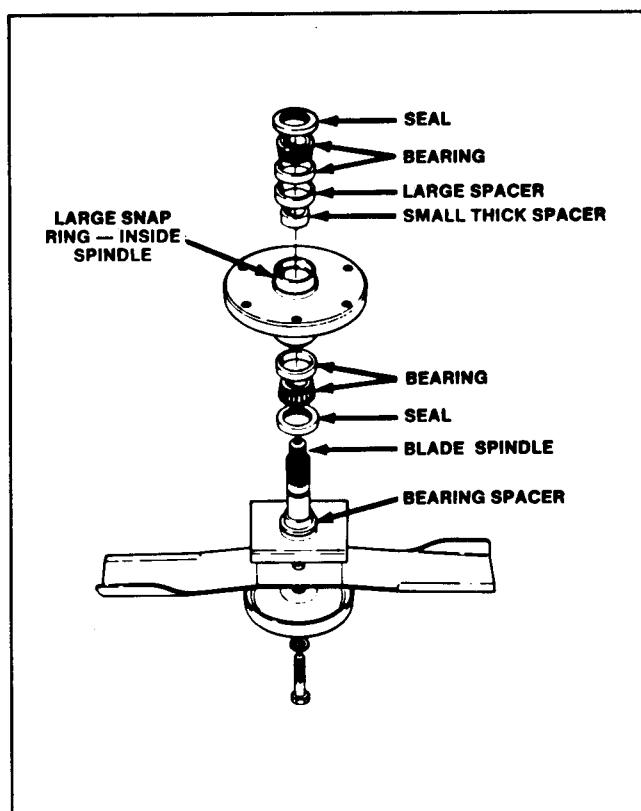

Figure 44
7. If the spindle shaft will be replaced, remove the blade bolt, lock washer, anti-scalp cup and the blade from the spindle shaft (Fig. 44). Otherwise, the blade and its other associated parts may be left on the spindle shaft.
9. The seals will be removed next; however, notice the lip of the seal. The lip of the upper seal faces inward, and the lip of the lower seal faces outward (Fig. 44) . Therefore, new seals must always be installed with the lip facing in the proper direction. Now remove the seals from spindle housing.
1. Install the large snap ring into the groove in the bore of the spindle housing (Fig. 44). Assure the snap ring is seated in the groove.
4. Apply a film of grease on the lips of both seals, then install the bearing and the seal into the bottom of the spindle housing. Remember, the bottom seal must have the lip facing outward (Fig 44), not toward the inside of the spindle housing.